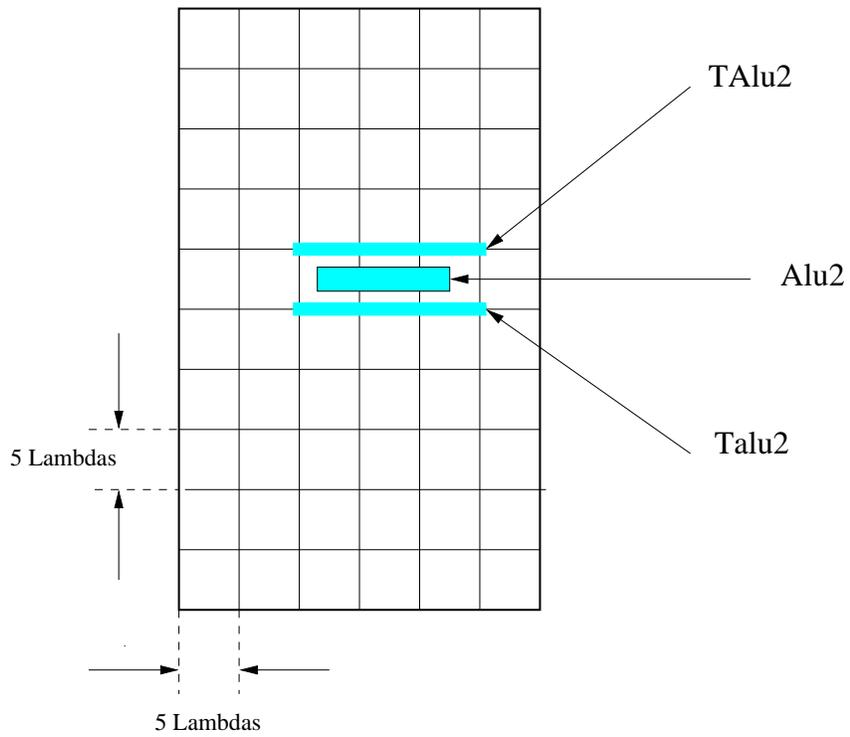

Figure 5: Use the layer TAluX like protection
- The special segments TALuX (TAlu1, TAlu2...) are used to indicate the obstacles for the router. When you want to protect AluX segment, it is necessary to cover them or surround them by corresponding TALuX (same layer). TALuX are placed on a grid with 5 lambdas steps (figure 5).